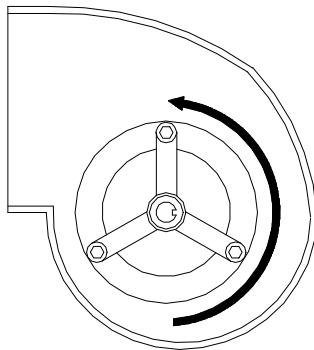

FIGURE 4
3. Before re-assembling the electrical box cover, momentarily turn unit on and off via the remote start/stop switch. Note the rotation of the blower wheel. Proper rotation is shown in **Figure 4**.